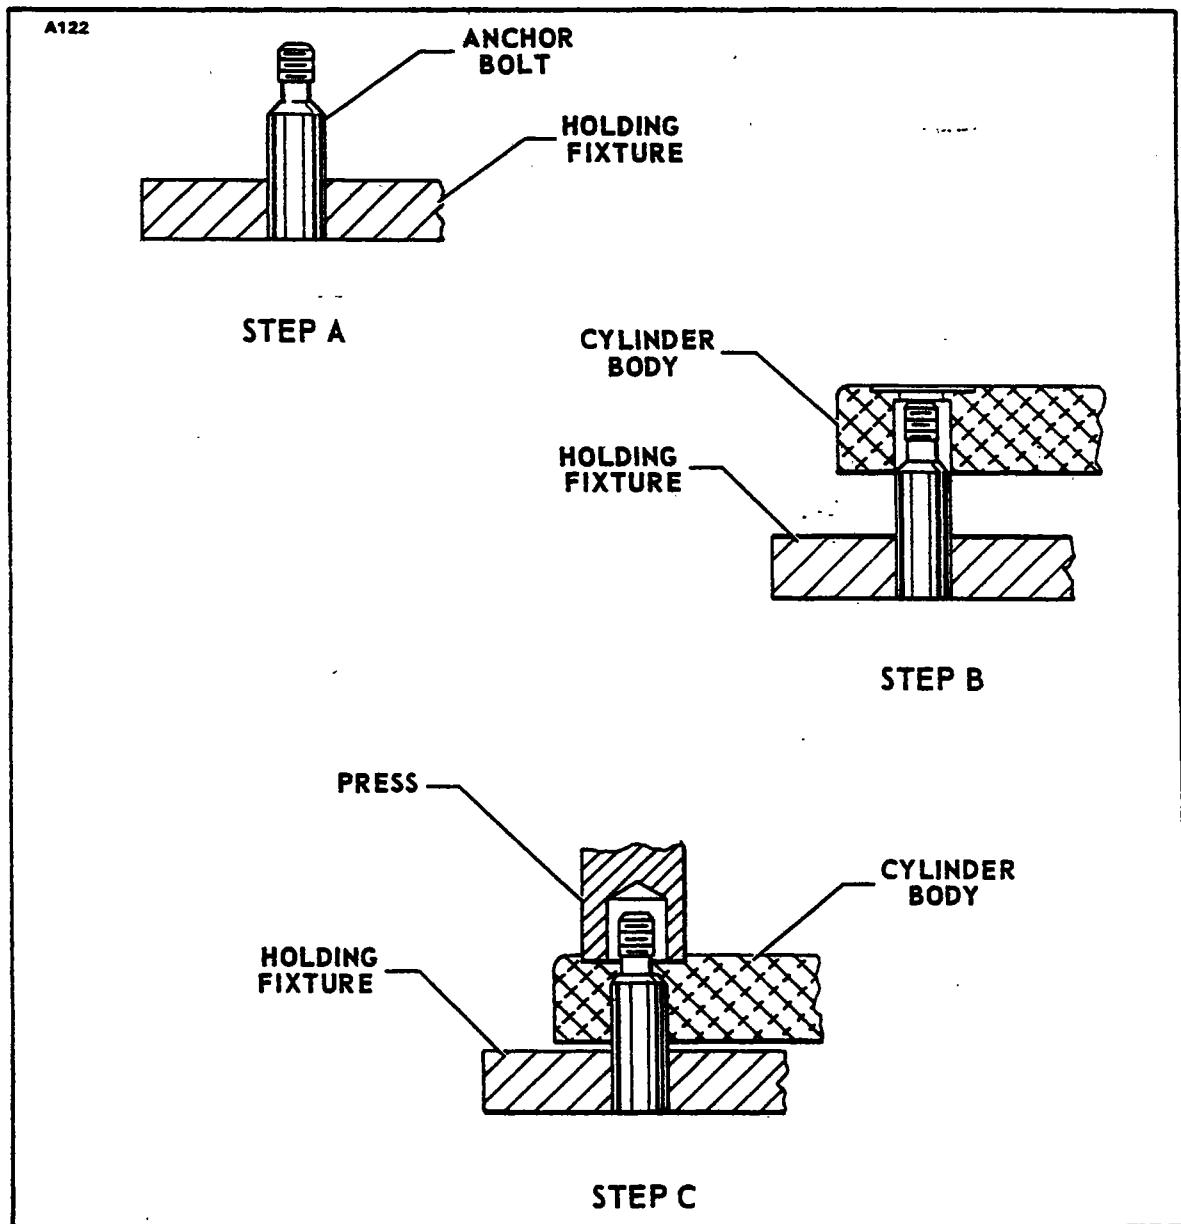

Figure 7-12. Installation of Anchor Bolt
1. Support Anchor Bolt in a holding fixture. (Refer to Figure 7-12. Step A.)
2. Align cylinder body over anchor bolt. (Refer to Figure 7-12. Step B.)
3. Use a suitable arbor press and apply pressure on the spot face directly over the anchor bolt hole. (Refer to Figure 7-12. Step C).